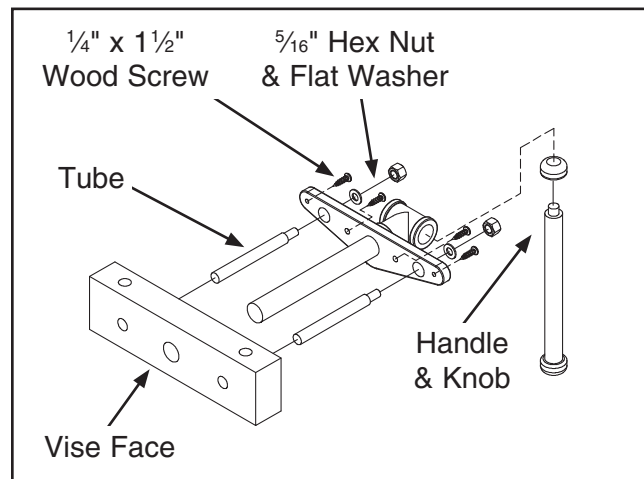

Figure 5. Vise assembly.
- Insert the tubes through the rear of the vise leadscrew assemblies and secure them with the $\frac{5}{16}$ "-18 hex nuts and $\frac{5}{16}$ " flat washers, as shown in **Figure 5**.
- Insert the handles through the ends of the vise leadscrew assemblies (see **Figure 5**) and glue on the knobs to hold them in place.